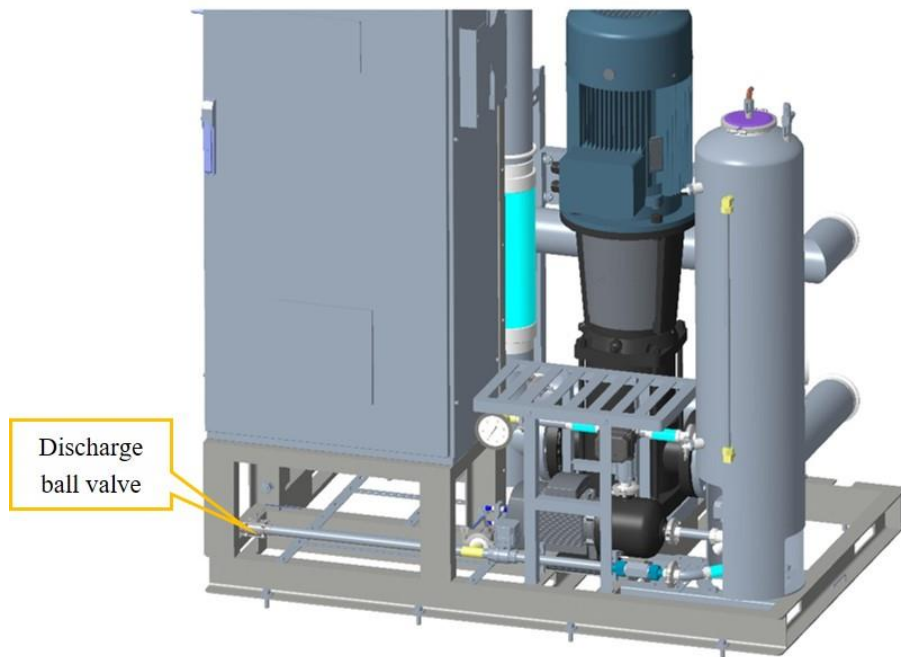

Figure 9.3 Location of discharge ball valve in pump station.
- a. Find the position of the discharge valve (Figure 9.3).
- b. Connect the drain hose to the drain ball valve and tighten it with a hose clamp; Guide the hose outside the equipment and open valve V104 and V201 (Figure 9.3) to drain the system.